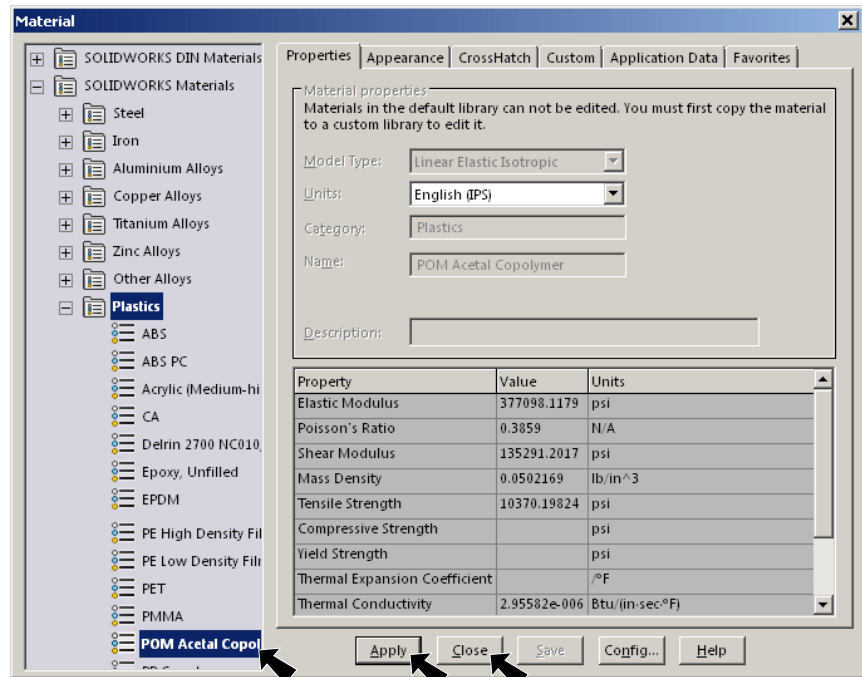

Fig. 18
Step 2. **Expand Plastics** in the material tree and select **POM Acetal Copolymer**, **Fig. 18**. Click **Apply** and **Close**.